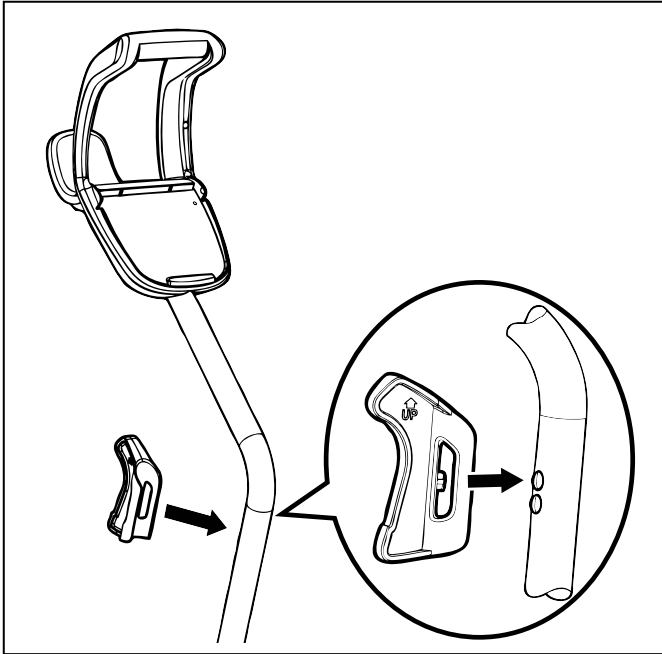

Figure 7. Snap Cleaner Hook into Place
8. Align cleaner hook pins with the top holes in the handle tube and snap into place (Figure 7).